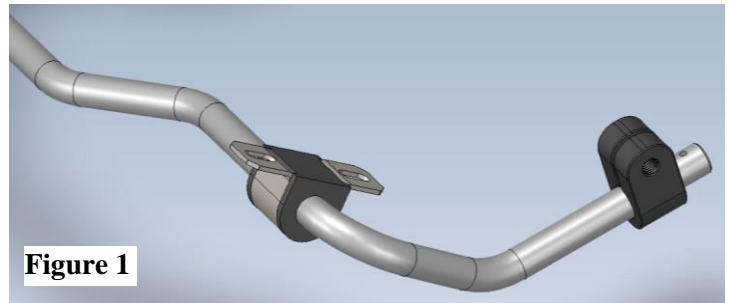

Figure 1
1. Lightly grease the inner bushings with marine grease before mounting the sway bar to the axle using the included bushing clamps (#9). Secure using 3/8" x 1" hardware with one 3/8" washer per connection. **(Figure 1 & 2)** The legs of the bar should be pointing towards the front of the vehicle and lower than the center of the bar.
3. Slide the bar clamp onto the leg of the sway bar with the mounting hole up and the threaded portion towards the outboard (wheel/tire) side. **(Figure 1)** The bar clamp should be left loose until the sway bar is fully installed and the car is at ride height.